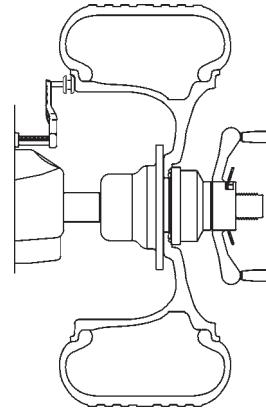

Figure 23a
- Move the rim offset arm to the edge of the rim, touch the pointer to the rim edge as illustrated in Figure 23a and hold steady for about a second. The beeper will sound when the distance and diameter values are calculated and entered. Return the arm to its fully in and down position on the balancer. Do not allow the measurement arm to "dangle" down in front of the balance.